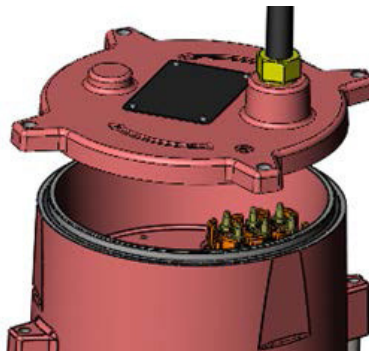
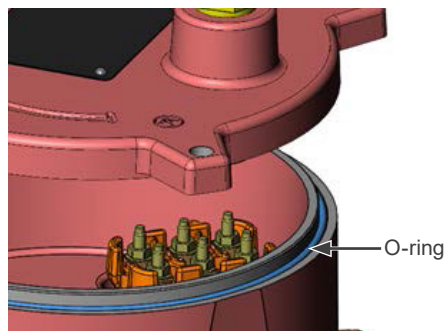

Figure 6.3: Removing the upper rear cover
Figure 6.4: Detail of the O-ring
Step 2: remove the upper rear cover, taking care not to damage the connection cable and the sealing O-ring (Figure 6.3 on page 5 and Figure 6.4 on page 5).